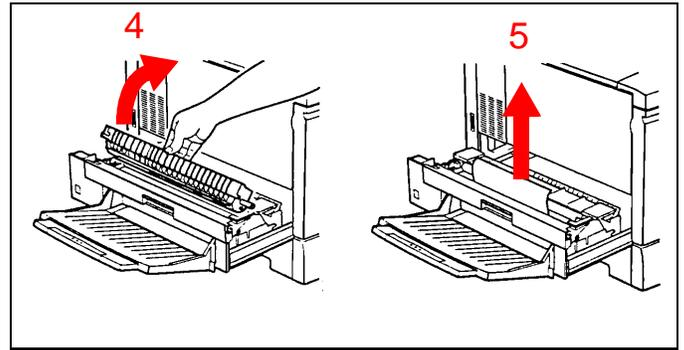

Figure 25
4. See Figure 25. Remove the oil roll cartridge and set it aside.